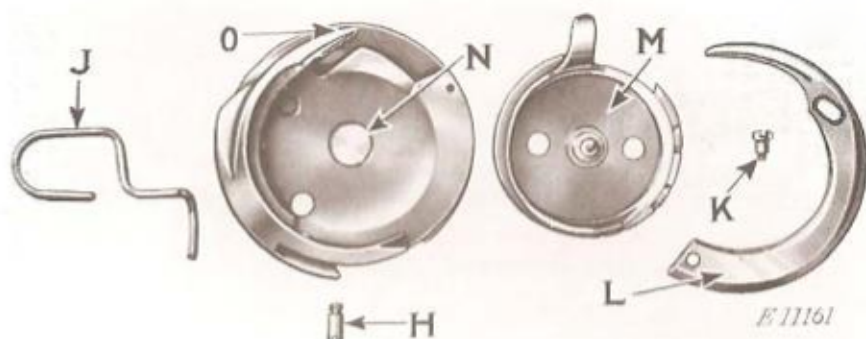

FIG. 24. ROTARY SEWING HOOK DISASSEMBLED
**When the new shaft is in place, do not tighten any of the screws until the correct location of the shaft with relation to the rotary sewing hook has been determined.** The shaft should be set so that its left end is flush with the face (N, Fig. 24) of the rotary hook when the hub of the hook is against the shaft bushing, and the screw (G, Fig. 22) in the hub of the hook, and nearest to the point of the hook (O, Figs. 23 and 24) engages the "flat" of the shaft.